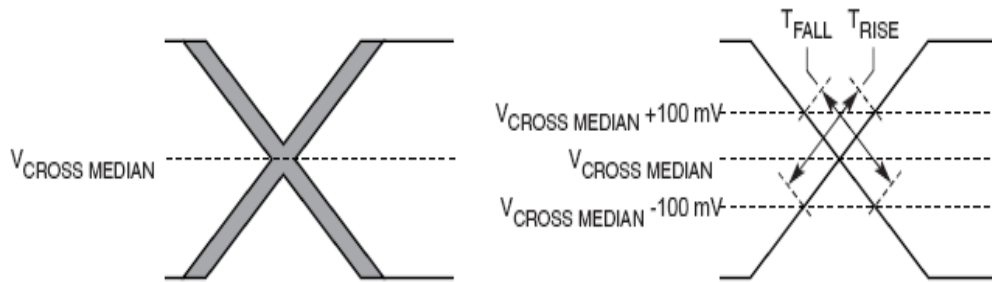

Figure 49. Single-ended measurement points for rise and fall time matching
- Matching applies to rising edge for  $\text{SD}_n\text{\_REF\_CLK}$  and falling edge rate for  $\overline{\text{SD}_n\text{\_REF\_CLK}}$ . It is measured using a 200 mV window centered on the median cross point where  $\text{SD}_n\text{\_REF\_CLK}$  rising meets  $\overline{\text{SD}_n\text{\_REF\_CLK}}$  falling. The median cross point is used to calculate the voltage thresholds that the oscilloscope uses for the edge rate calculations. The rise edge rate of  $\text{SD}_n\text{\_REF\_CLK}$  must be compared to the fall edge rate of  $\overline{\text{SD}_n\text{\_REF\_CLK}}$ , the maximum allowed difference should not exceed 20% of the slowest edge rate. See Figure 49.